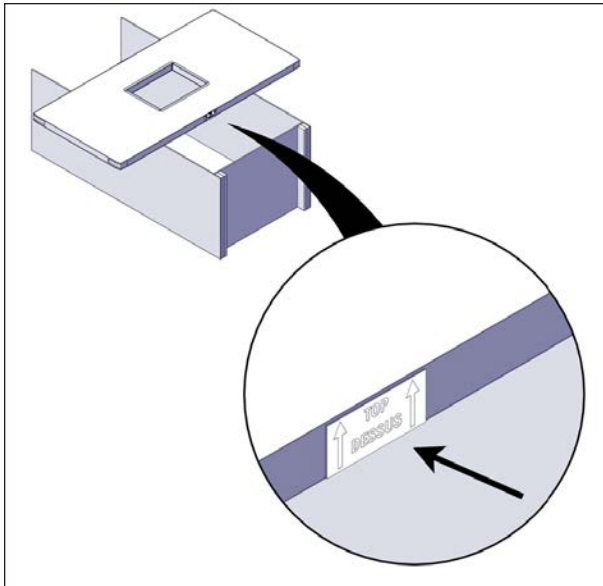

FIGURE 36: PANEL INSTALLATION
2. Install the escape hatch panel (approx 47" x 96" [119 cm x 244 cm]) onto the middle of the installation surface see Figure 36. Ensure the seal around the escape hatch opening is on the top and TOP/DESSUS label (Figure 36) located in the panel's hole is properly oriented.